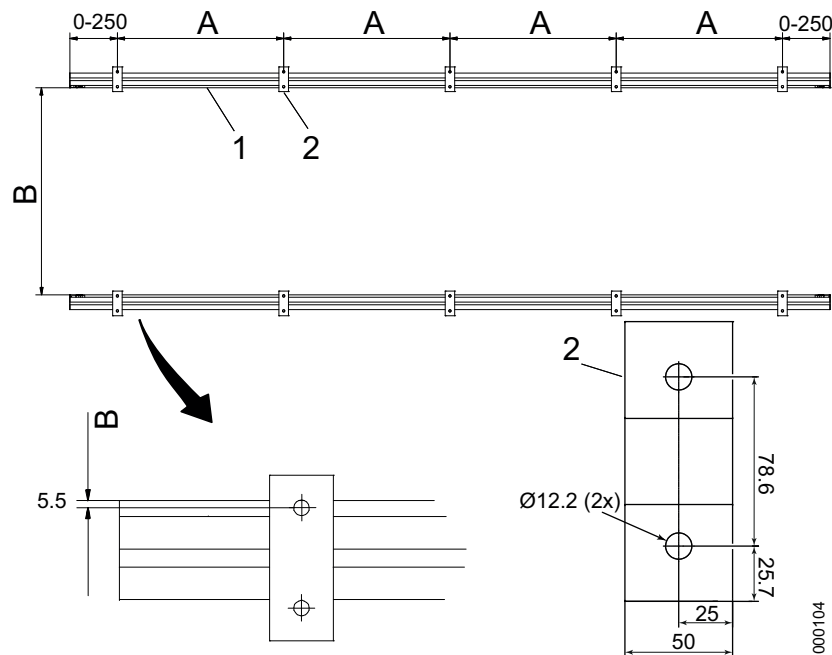

Fig. 4-4 Ceiling rails Y
The distance (A) between the fixation points depends on the length of the traverse rails Y, see Fig. 4-4 *Ceiling rails Y* and Table 4-1 .
The distance (B) between the ceiling suspended unit rails Y is depended on the length of the traverse rails X, see Fig. 4-4 *Ceiling rails Y*.
The distance (B) between the distance plates is depended on the length of the traverse rail X, see Fig. 4-4 *Ceiling rails* and Table 4-1